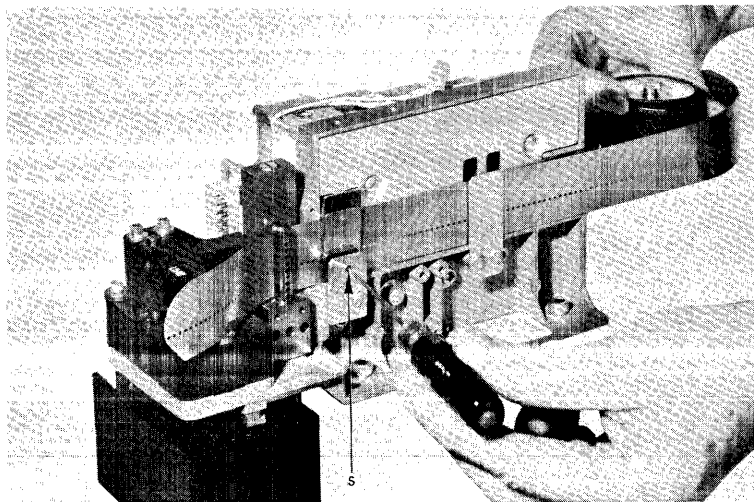

Figure 5-7. Adjustment of Edge Guide Assembly.
- a. Place one layer of mylar tape between the edge guide assembly and the side plate. See Figure 5-7.
- c. If the conditions of step b are not present, adjust set screw (S) until the required tension is present.